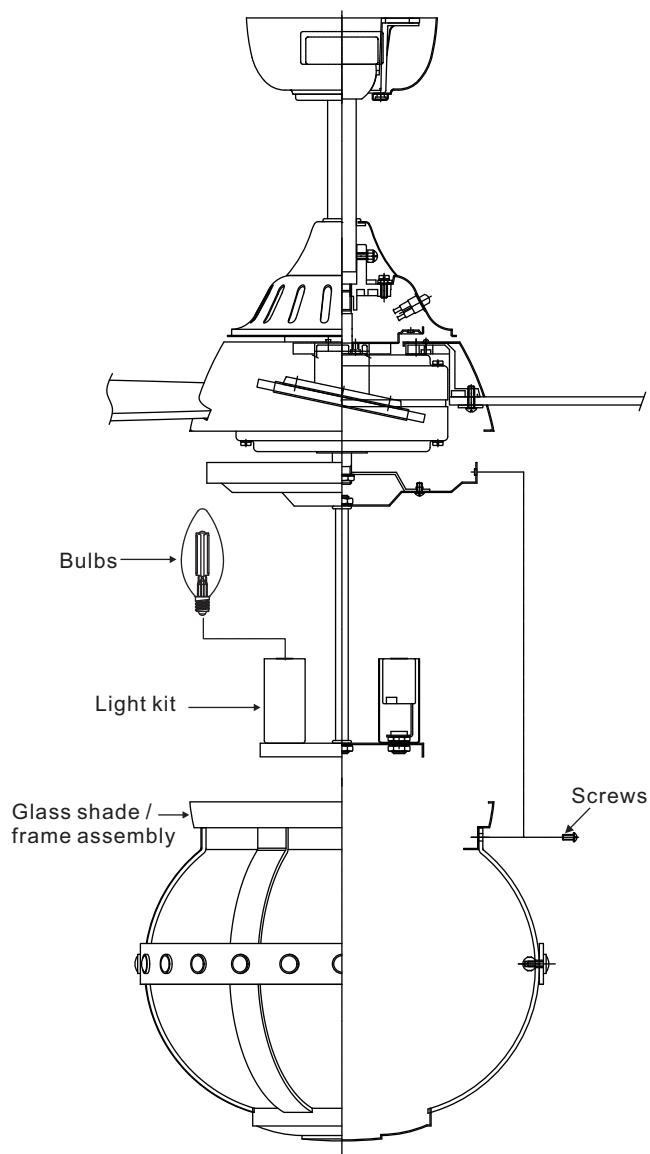

Figure 16
**Step 3.** Tuck connections neatly into mounting ring, Place the light plate key holes over the 2 screws previously loosened from the mounting ring, turn light kit until it locks in place at the narrow section of the key holes. Secure by tightening the 2 screws previously loosened and the one previously removed. (Fig. 16).
**Step 2.** Raise the glass shade / frame assembly up to the light kit and secure with the 3 screws provided. (Fig. 16)